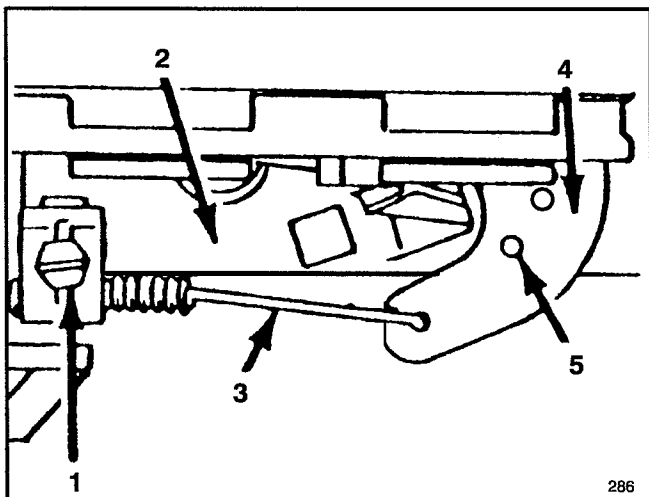

Figure 16
3. Loosen cable clamp screw until throttle cable slides (Fig. 16).
4. Move throttle cable left or right until holes in throttle lever and throttle bracket align (Fig. 16).